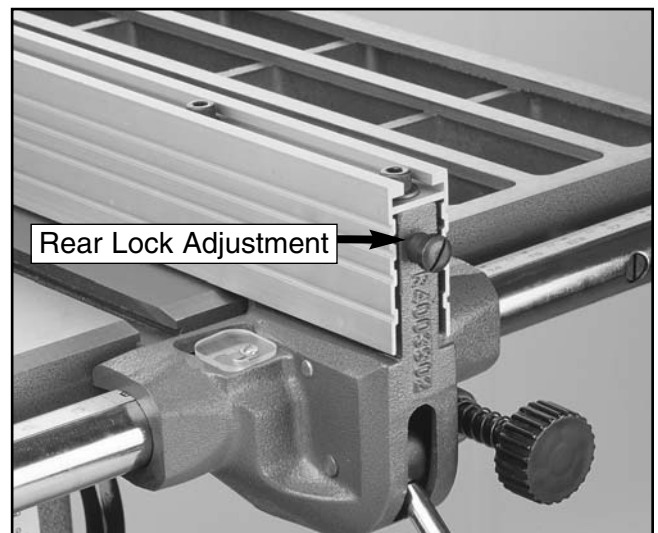

Figure 31. Rear lock adjustment screw.
5. Loosen the rear lock adjustment (the slotted screw on the front of the fence shown in **Figure 31**) until the rear locking clamp ceases to engage the rear rail with the fence in the locked position.